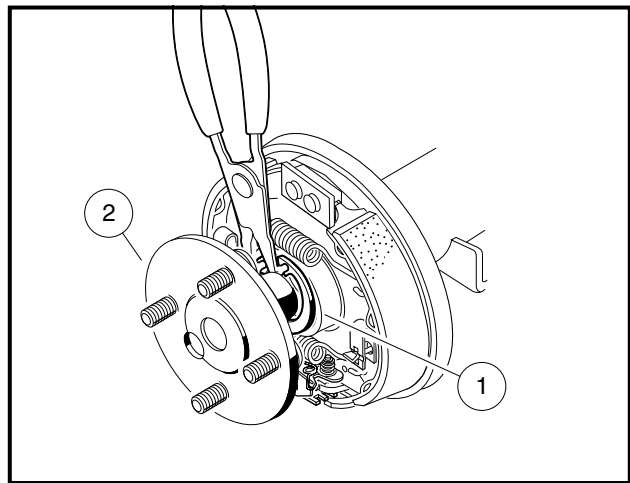

Figure 6-3 Remove Axle Retaining Ring
- 5.1. Use 90° snap ring pliers (CCI P/N 1012560) to remove axle retaining ring (1) (**Figure 6-3, Page 6-2**).
- 5.2. Pull the axle shaft (2) from the axle tube (**Figure 6-3, Page 6-2**).
7. Install axle shaft (2) into axle tube and install retaining ring (1) (**Figure 6-3, Page 6-2**). See following **WARNING** and **CAUTION**.